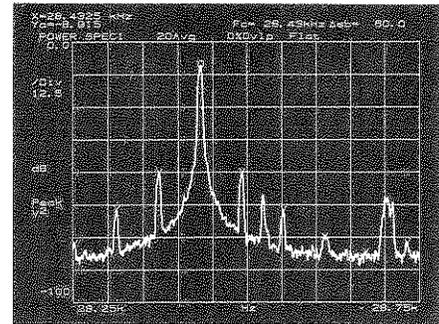
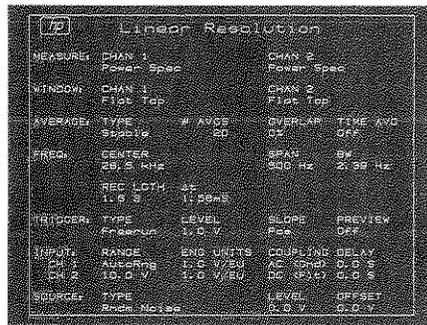

Figure 5-6
Figure 5-7
8. **Sideband Frequency** Select the **SBAND INCRMT** (sideband increment) softkey and enter the powerline frequency (50, 60 or 400 Hz). The spectrum display should be similar to Figure 5-6.
9. **Display Power** Select the **SBAND POWER** softkey to display the sideband power value as shown in Figure 5-6.
This example begins with the modulated spectrum shown in Figure 5-6; the setup state for this zoom measurement is shown in Figure 5-7. The following procedure is a demonstration of AM demodulation of this signal with the HP 3562A.